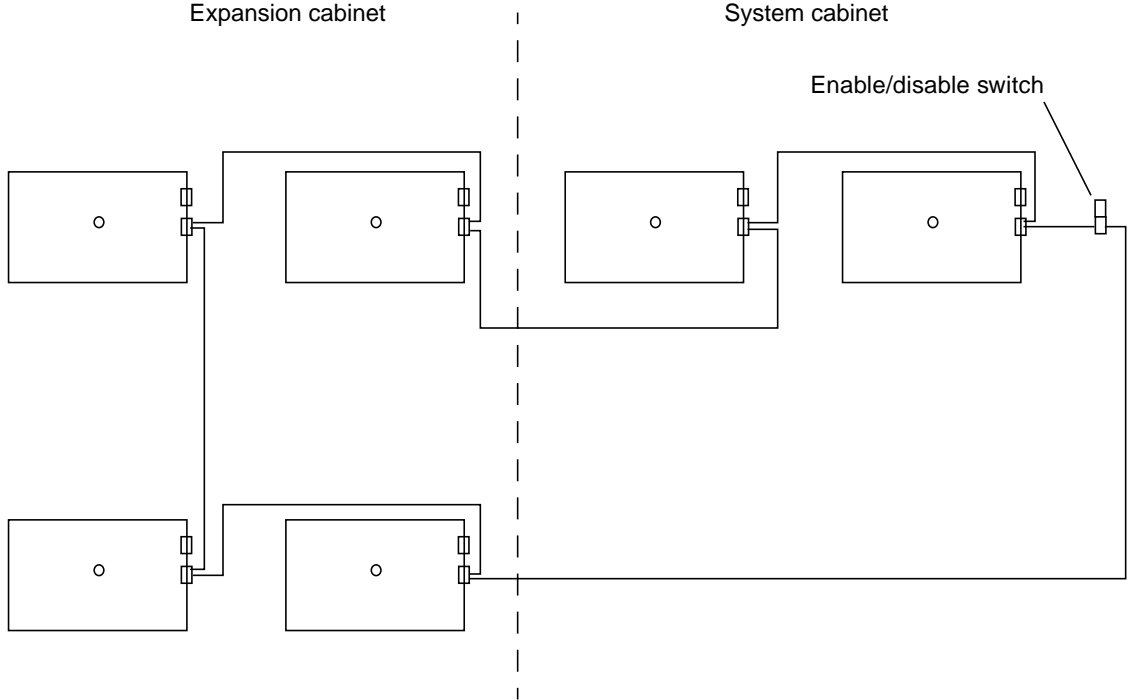

FIGURE B-16 Drawer Interlock Connection Diagram
3. Connect J1 to J1/P1 and J2 to J2/P2 according to the diagram in FIGURE B-16. Note that the connections in the system cabinet are already installed.